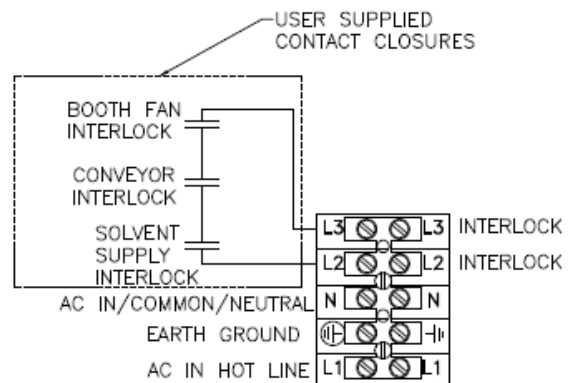

Figure 9: TB1 Interlock Wiring
4. Using a shielded cable for the interlock wiring (supplied by user), route through the interlock connector on the side of the 9060 Controller and terminate 1TB-L2 and 1TB-L3 as shown in Figure 9 and 11. The shielded cable must have a minimum rating